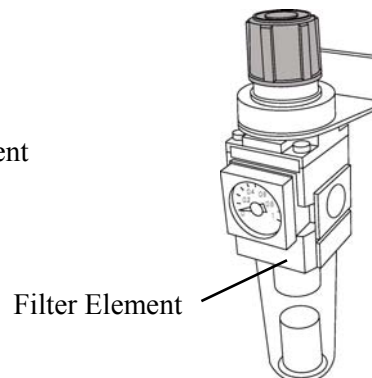

Figure-6
8. Regulator Cleaning: Figure-6